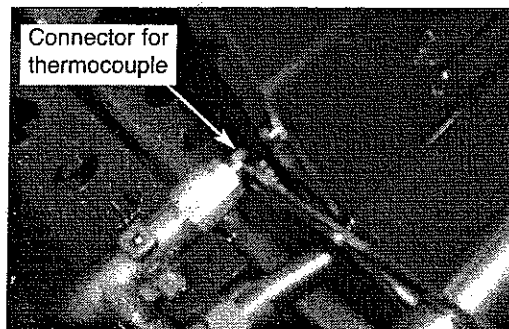

Fig 10
10. Use a 1/4" wrench to disconnect the thermocouple connector from the valve. (See Fig. 10)
18. Tighten the connector to the valve only 1/4 turn with a 1/4" wrench. (see Fig. 10 on previous page)